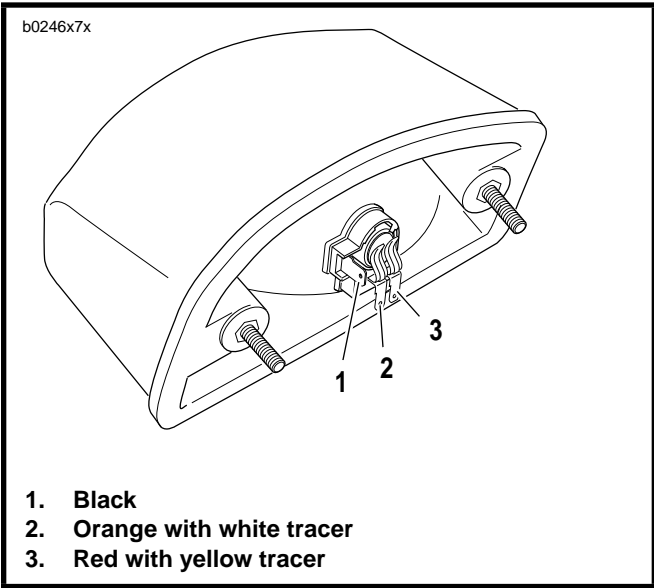

Figure 7-37. Tail Lamp Bulb Wires
1. See Figure 7-37. Install the three tail lamp wires.